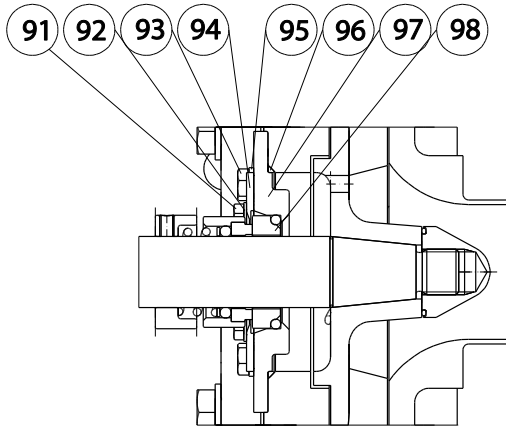

Figure 3 Mechanical seal S12.
1. If it has been disassembled: Fit the set ring of the mechanical seal and adjust it according to figure 3 and the values from the table below.